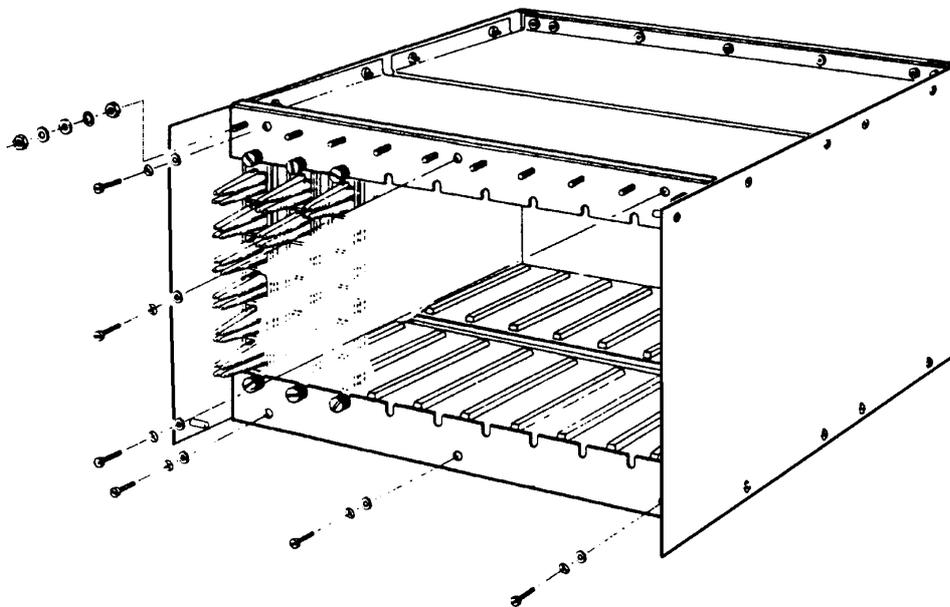

Figure 3.6 Fitting the clamp bars on the IMP mounting frame.
Figure 3.6 Fitting the clamp bars on the IMP mounting frame.....	3-8
- 5** At the rear of the unit fix the lower clamp bar in its lowest position, using M4 pan head screws with plain and crinkle washers. Then fix the upper clamp bar (with grounding studs) in its highest position, using M4 pan head screws with plain and crinkle washers. (See Figure 3.6.)